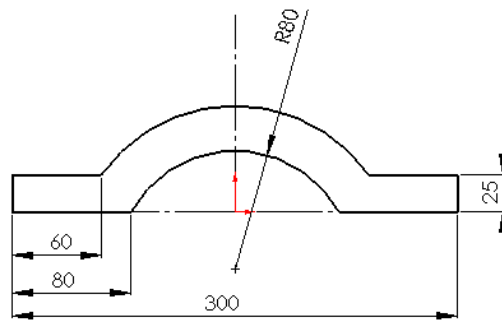

Figure 5-91 Sketch of the base feature
- Create the base feature by extruding the sketch created on the front plane, refer to Figures 5-91 and 5-92.
- Using the standard sketching tools create the sketch of the base feature and then apply the required relations and dimensions to the sketch as shown in Figure 5-91.